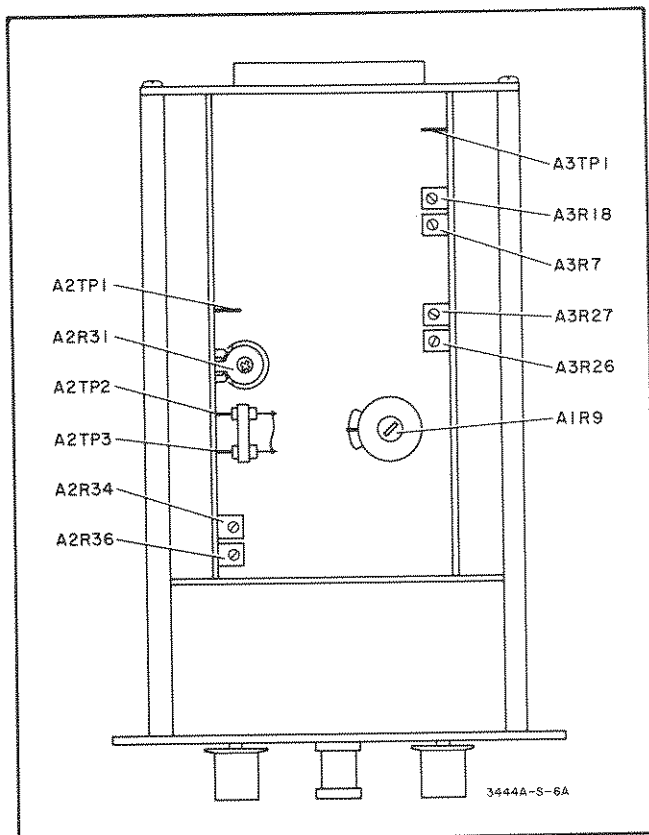

Figure 5-10. Adjustment Test Points and Control Location
- d. Adjust A3R26 (Figure 5-10) to obtain an over-range indication of +00.00. Check that A3R26 setting is at least 5 counts away from the high limit of pot travel.
- f. Adjust A3R27 (Figure 5-10) to obtain an indication of +000.0.
- b. Rotate the FUNCTION selector switch to the VOLTS position and the RANGE switch to the 100 MV position. Set the DC Standard to zero. Measure (using Φ Model 412A or equivalent) the dc voltage at test point A2TP1 (see Figure 5-10). The voltage measured should be between -35 and -50 volts. If not, refer to symptom a, Table 5-10.
- a. Set controls of the electronic counter (Φ Model 522B or equivalent) as follows: FUNCTION SELECTOR to FREQUENCY, and STD GATE TIME to 1 sec. Connect the INPUT to test point A2TP1 (Figure 5-10).